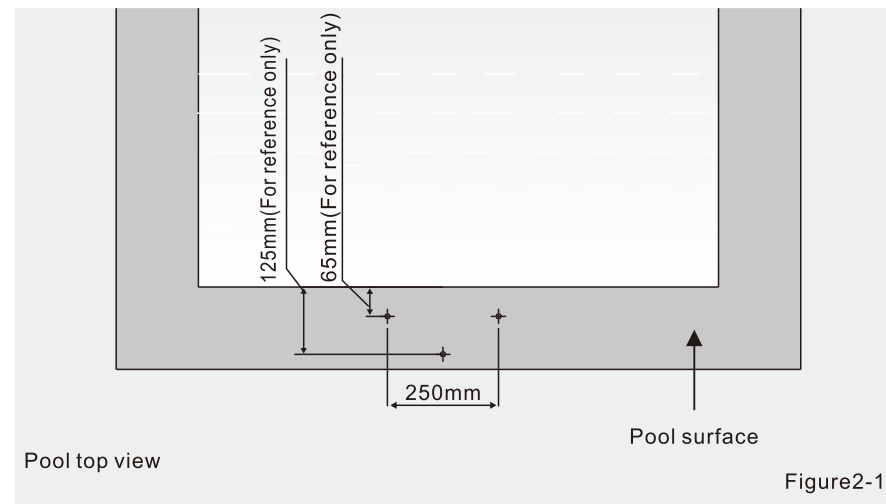

Figure2-1
1.As shown in the figure 2-1, firstly locate according to the dimensions in the figure,and the equipment is required to be centered.Then drill a hole with a diameter of 10mm and a depth of 55-60mm on the surface of the swimming pool (Fixing hole of L-shaped bracket).